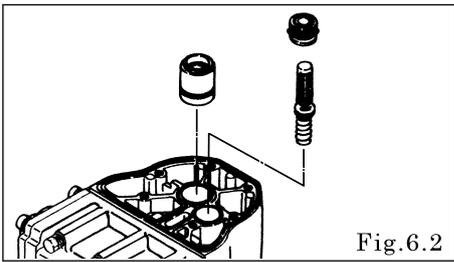

Fig. 6.2
- Draw out the pilot valve and valve seat. [Fig.6.2]
- Draw out the throat bearing. [Fig.6.2]